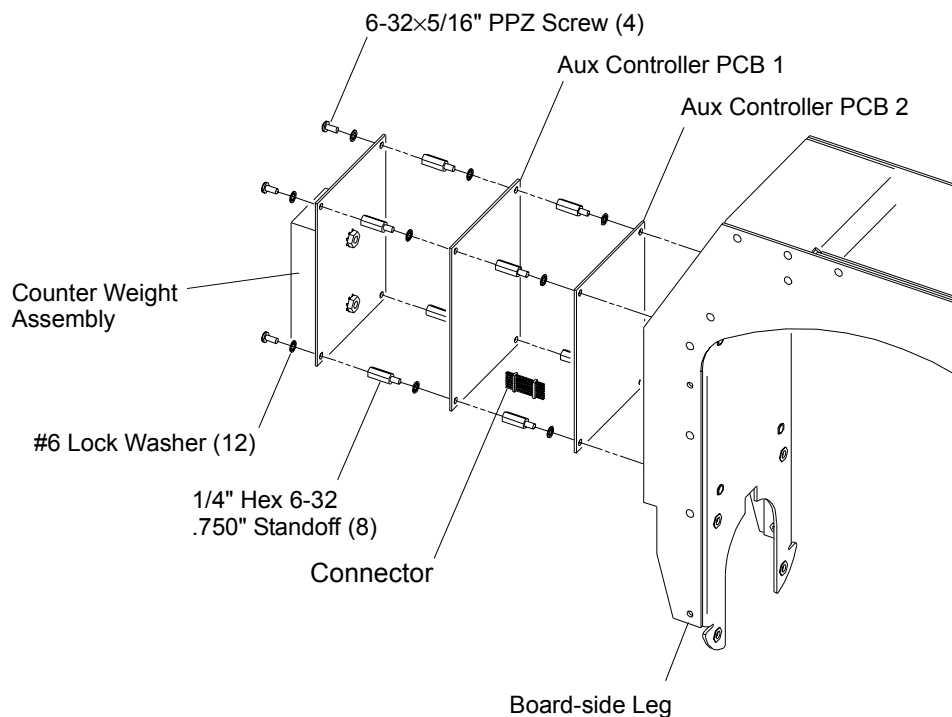

Figure 2-19: Auxiliary Controller PCB Replacement
- Step 3. Remove counter weight assembly by removing four 6-32 X 5/16" PPZ screws and four #6 lock washers (**Figure 2-19**).